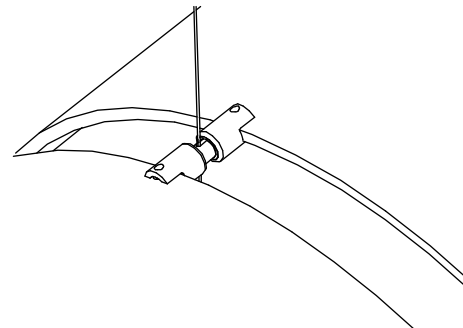

Figure 19
- D. Slide the bullet into the sleeve and tighten. (Fig. 19)